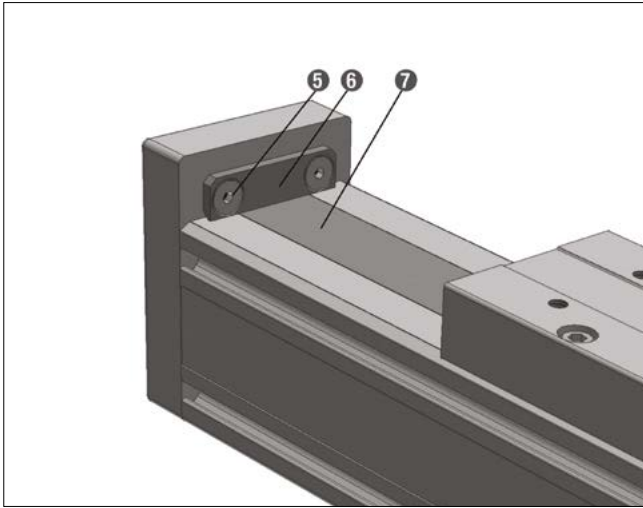
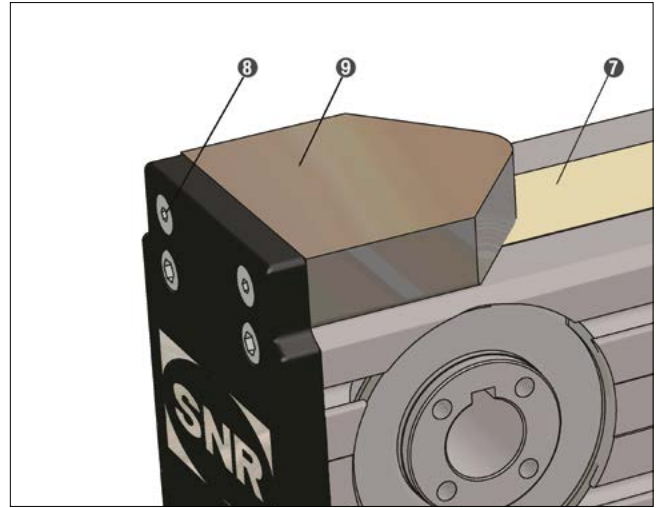

Figure 4.14 __ Cover strip fastening for screw drive axis
Figure 4.15 __ Cover strip fastening for toothed belt axis
2. For Linear Axis with screw drive (Figure 4.14), disassemble the screws of the cover strip clamping **3** and **5** and remove the clamping plates **4** and **6**. For Linear Axis with toothed belt drive (Figure 4.15), disassemble the fastening screws of the end position dampers **8** and remove the end position dampers **9**.